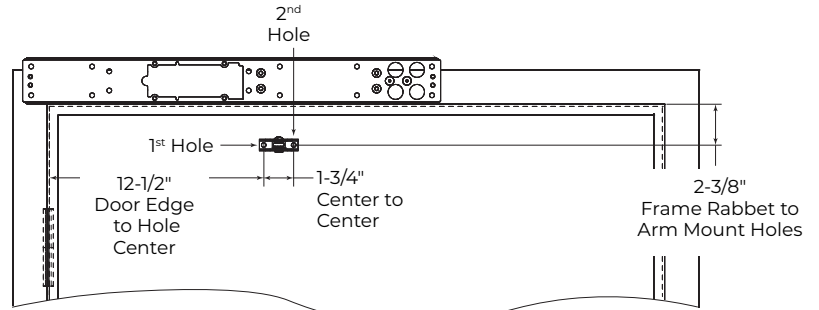

Figure 4
1. Using the template (available for download from [www.nortonrixson.com](http://www.nortonrixson.com)), measure and mark the door for the first forearm shoe mounting hole. (Figure 4)
5. Using the forearm shoe as template, mark and drill the second mounting hole. (Figure 4)